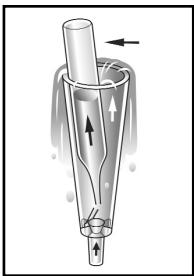

Figure 1
2. Insert an ampoule so that the tapered tip is at the bottom of the sampling tube. Snap the ampoule tip by gently pressing the upper end of the ampoule toward the wall of the sampling tube (fig. 1). The ampoule will fill, leaving a bubble to facilitate mixing.